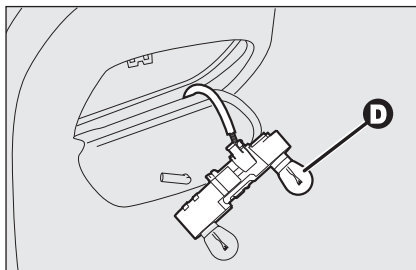

fig. 36
- remove and replace the burnt-out bulb by pressing it slightly and turning it counterclockwise **fig. 36**;